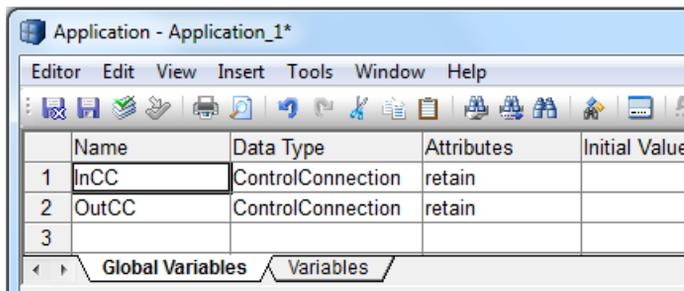

Figure 72. Global variables for connecting the CCTemplate object in the application
2. Declare two global variables (InCC and OutCC of ControlConnection) in the Application according to Figure 72.